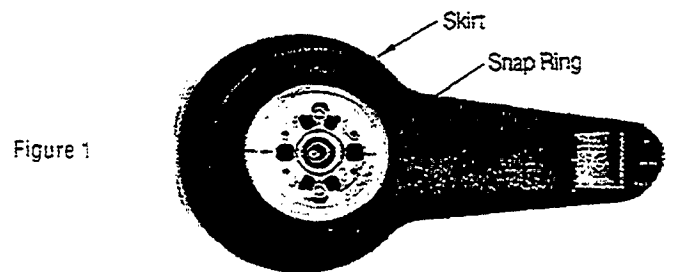

Figure 1
2. ASSEMBLY: (Figs. 1 thru 5)
- Mount skirt, making sure it is properly seated against motor housing. Install snap ring so that it is fully seated in its groove (Fig. 1).